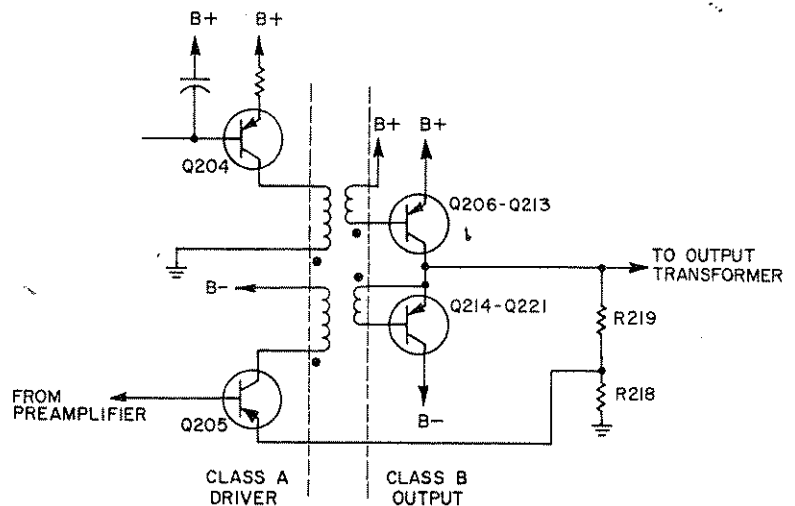

Figure 4-5. Power-amplifier circuit.
**4.3.4 POWER-AMPLIFIER STAGE.** See Figure 4-5. A two-transistor, Class-A, driver stage is transformer coupled to the output stage. The high collector impedance of the driver, Q205, provides a high impedance to drive the Class-B output stage, thus utilizing the relatively linear current-to-current transfer ratio of the output transistors. This produces a minimum of crossover distortion without the use of temperature-sensitive biasing networks.1